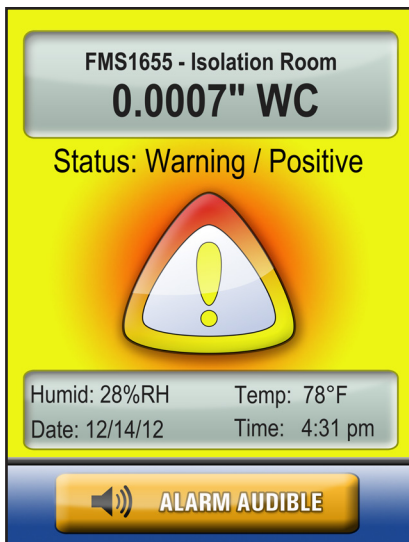

Figure 60. Warning status is indicated by a yellow background on the main display.
- *Warning status* indicates that the monitored input has drifted outside of its normal operating range, but has not yet exceeded the alarm setpoints. This status condition is indicated by a yellow background as shown in Figure 60, and does not sound the audible alarm regardless of the enable settings.